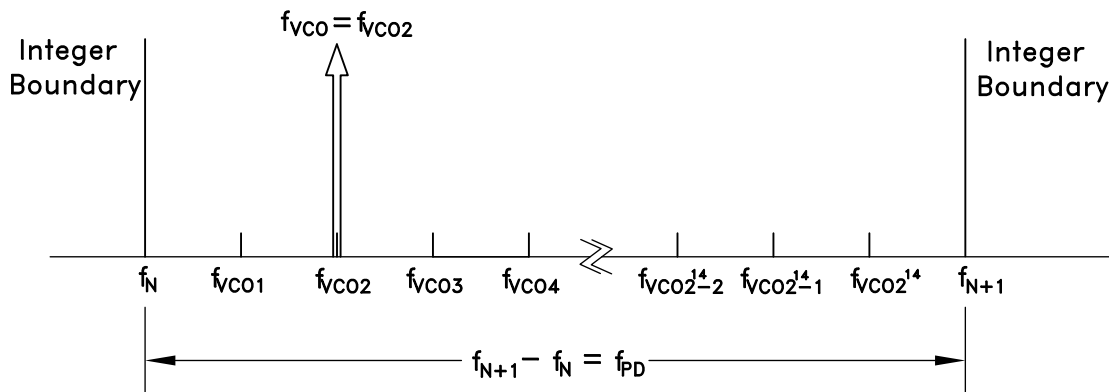

Figure 44. Exact Frequency Tuning
and f_{VCOk} are the channel step frequencies where $0 < k < 2^{24}-1$, As shown in Figure 44.
Some fractional PLLs are able to achieve this by adjusting (shortening) the length of the Phase Accumulator (the denominator or the modulus of the Delta-Sigma modulator) so that the Delta-Sigma modulator phase accumulator repeats at an exact period related to the interval frequency ($f_{VCOk} - f_{VCO(k-1)}$) in Figure 44. Consequently, the shortened accumulator results in more frequent repeating patterns and as a result often leads to spurious emissions at multiples of the repeating pattern period, or at harmonic frequencies of $f_{VCOk} - f_{VCO(k-1)}$. For example, in some applications, these intervals might represent the spacing between radio channels, and the spurious would occur at multiples of the channel spacing.
If it is desirable to have multiple, equally spaced, exact frequency channels that fall within the same interval (ie. $f_N \leq f_{VCOk} < f_{N+1}$) where f_{VCOk} is shown in Figure 44 and $1 \leq k \leq 2^{14}$, it is possible to maintain the same integer-N (Reg 03h) and exact frequency register (Reg 0Ch) settings and only update the fractional register (Reg 04h) setting. The Exact Frequency Channel Mode is possible if (EQ 17) is satisfied for at least two equally spaced adjacent frequency channels, i.e. the channel step size.
To configure the HMC833LP6GE for Exact Frequency Channel Mode, initially and only at the beginning, integer (Reg 03h) and exact frequency (Reg 0Ch) registers need to be programmed for the smallest f_{VCO} frequency (f_{VCO1} in Figure 44), as follows:
1. Calculate and program the integer register setting $\text{Reg 03h} = N_{INT} = \text{floor}(f_{VCO1}/f_{PD})$, where f_{VCO1} is shown in Figure 44 and corresponds to minimum channel VCO frequency. Then the lower integer boundary frequency is given by $f_N = N_{INT} \cdot f_{PD}$.
$$\text{Reg04h} = N_{FRAC} = \text{ceil} \left(\frac{2^{24} (f_{VCOk} - f_N)}{f_{PD}} \right) \quad \text{where } f_N = \text{floor}(f_{VCO1}/f_{PD}), \text{ and } f_{VCO1}, \text{ as shown in Figure 44, represents the smallest channel VCO frequency that is greater than } f_N.$$
4. To change from channel 1 ($f_{VCO1} = 2800.2$ MHz) to channel 2 ($f_{VCO2} = 2800.3$ MHz), only Reg 04h needs to be programmed, as long as all of the desired exact frequencies f_{VCOk} (Figure 44) fall between the same integer-N boundaries ($f_N < f_{VCOk} < f_{N+1}$). In that case